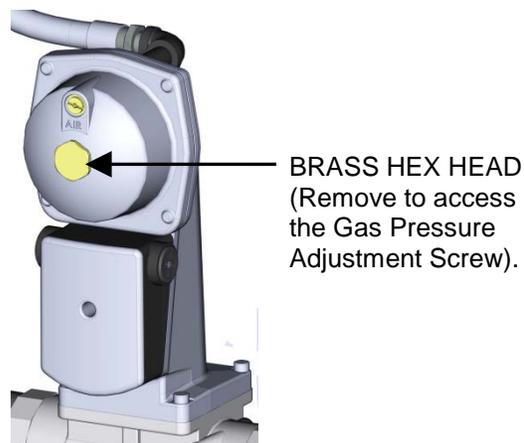

Figure 6-2: SSOV with Gas Pressure Adjustment Screw Location
8. Slowly increase the manifold gas supply pressure by turning the Gas Pressure Adjustment Screw in the Downstream SSOV (Figure 6-2) while reading the CO level on the combustion analyzer. Adjust the manifold pressure until the CO reading is **300 ppm**. Note the number of turns you make, as you will turn it back to its original position in step 10, below.